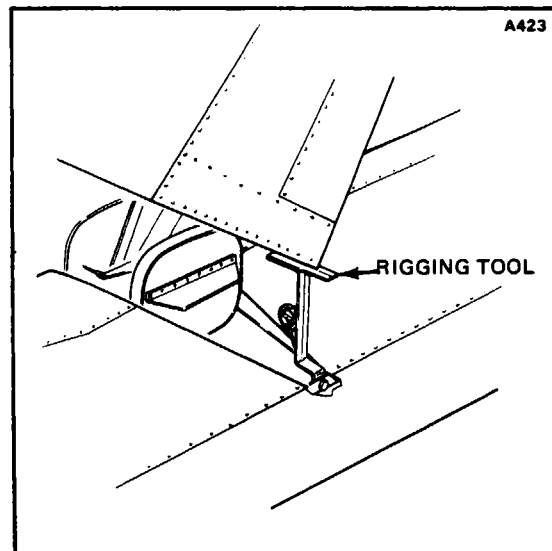

Figure 5-12. Installation of Rudder Aligning Tool (Typical)
- g. Attach a fabricated checking tool to the previously mentioned bolt and secure with washer and nut. (Refer to Figure 5-12.) (The tool may be fabricated from dimensions given in Figure 5-19.)